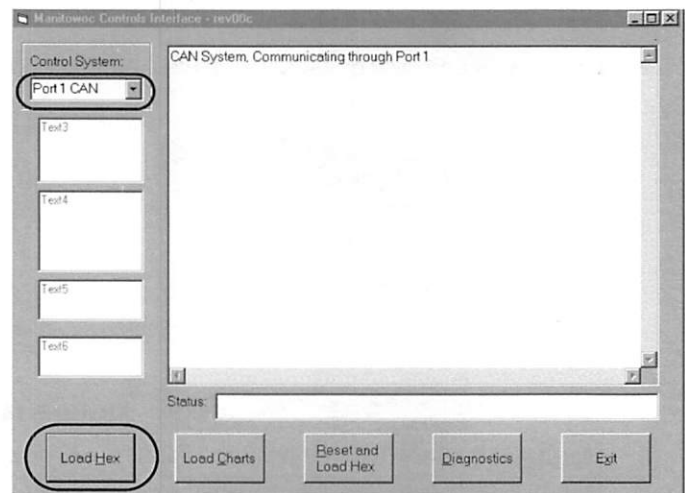

FIGURE 20
3. Manitowoc Controls Interface screen is displayed (see Figure 20). Press button under **Control System**, located in upper left corner of screen.
4. Select desired laptop serial port to be used as well as CAN shown in Figure 20.
6. Select and press **Load Hex** button in lower left corner (see Figure 20). A screen will drop down called **Open**.